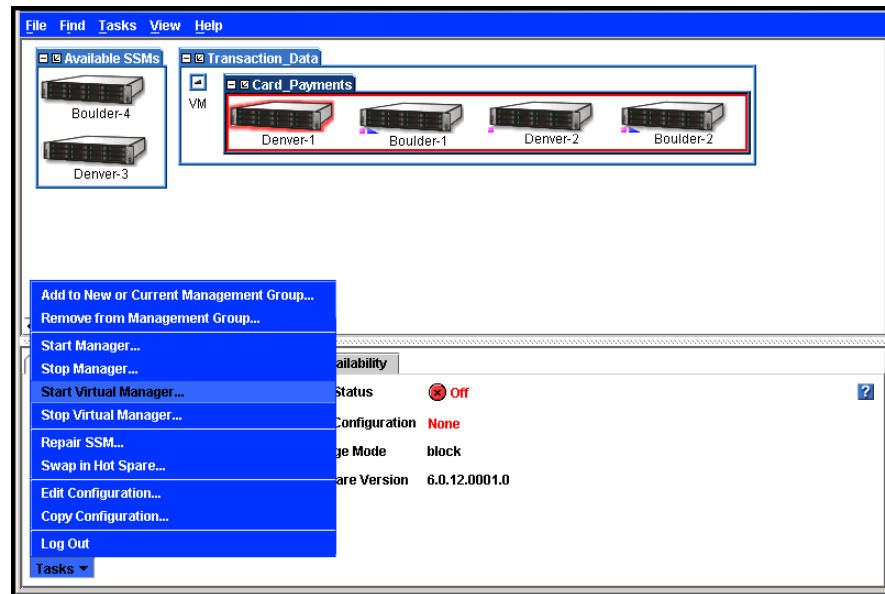

Figure 154. Starting a Virtual Manager
A virtual manager must be started on an SSM, ideally one that is not already running a manager. However, if necessary, you can start a virtual manager on an SSM that is already running a manager. Figure 154 shows a management group with a down manager.
2. From the Tasks menu on either the Details tab or the Management Group Information tab, select Start Virtual Manager, shown in Figure 154.